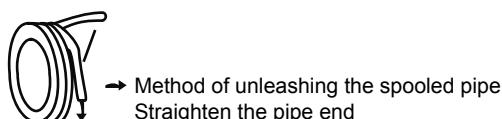

Fig.6-3
- b. Bend the thin-wall connective pipe (See Fig.6-3)